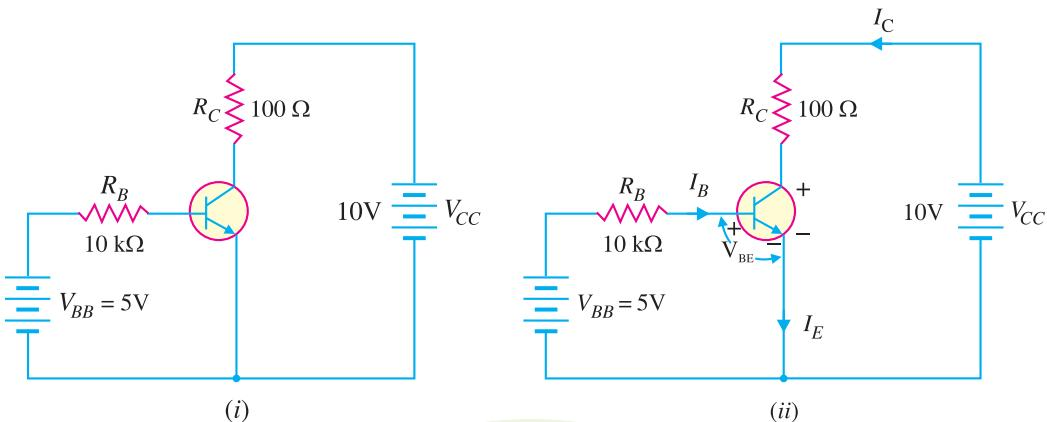

Fig. 8.26
**Example 8.17** Determine  $V_{CB}$  in the transistor \* circuit shown in Fig. 8.26 (i). The transistor is of silicon and has  $\beta = 150$ .
**Solution.** Fig. 8.26 (i) shows the transistor circuit while Fig. 8.26 (ii) shows the various currents and voltages along with polarities.